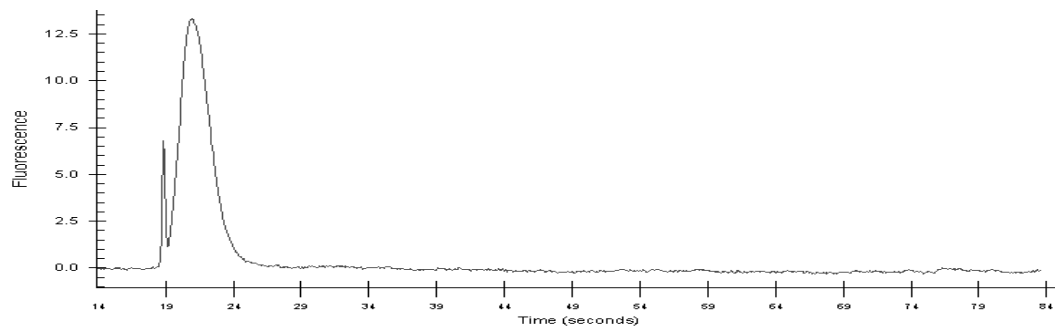

Figure 2.1.7
3. Save an aliquot for analysis on the Bioanalyzer. A typical fragmented target is shown in Figure 2.1.7.